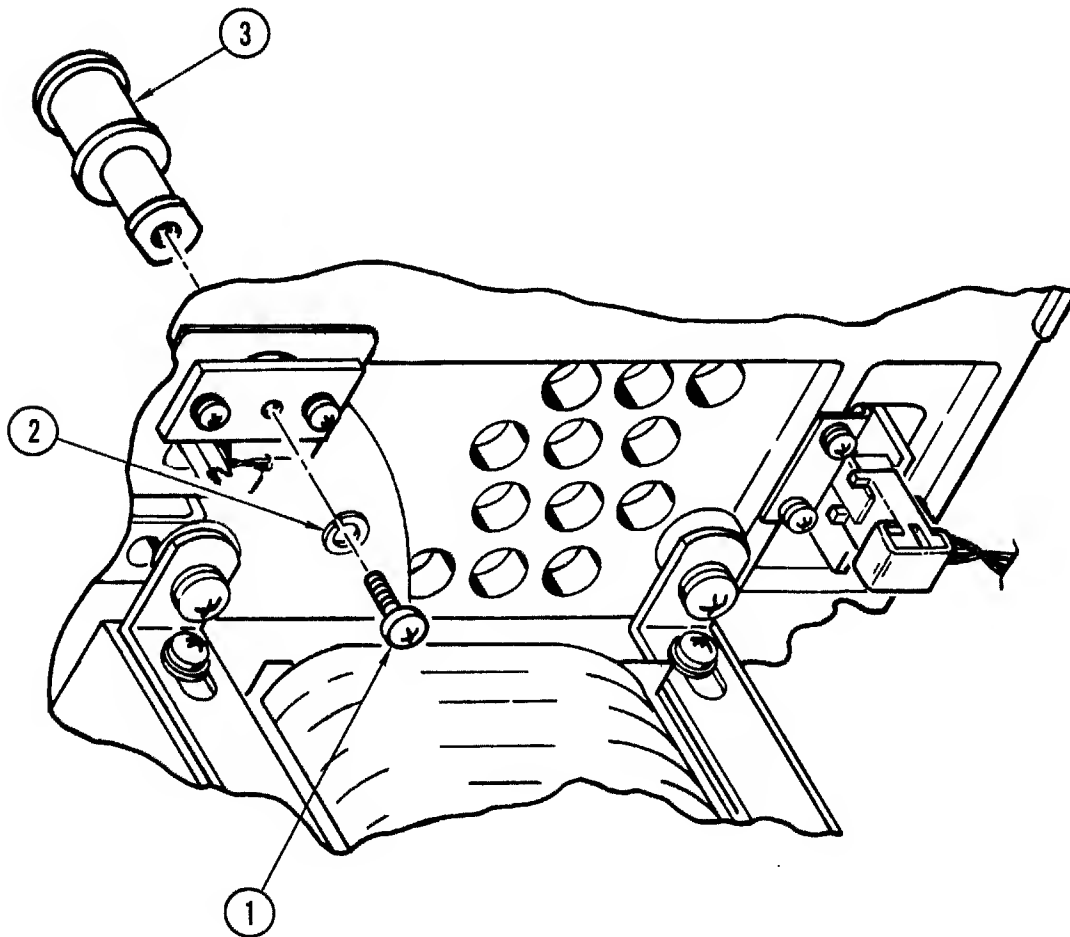

Figure 4-21. Tape Guide Assembly (Solid)
4-35. **Removal and Replacement (Figure 4-21).** Place the transport in service access position in accordance with instructions in paragraph 4-3 and proceed as follows:
- a. Remove attaching screw (1, Figure 4-21) and lockwasher (2), and leaving shims in place remove tape guide assembly (solid) from top of top plate. Save attaching parts for reinstallation.
- b. Reinstall tape guide assembly (solid) (3) in reverse order of step a.